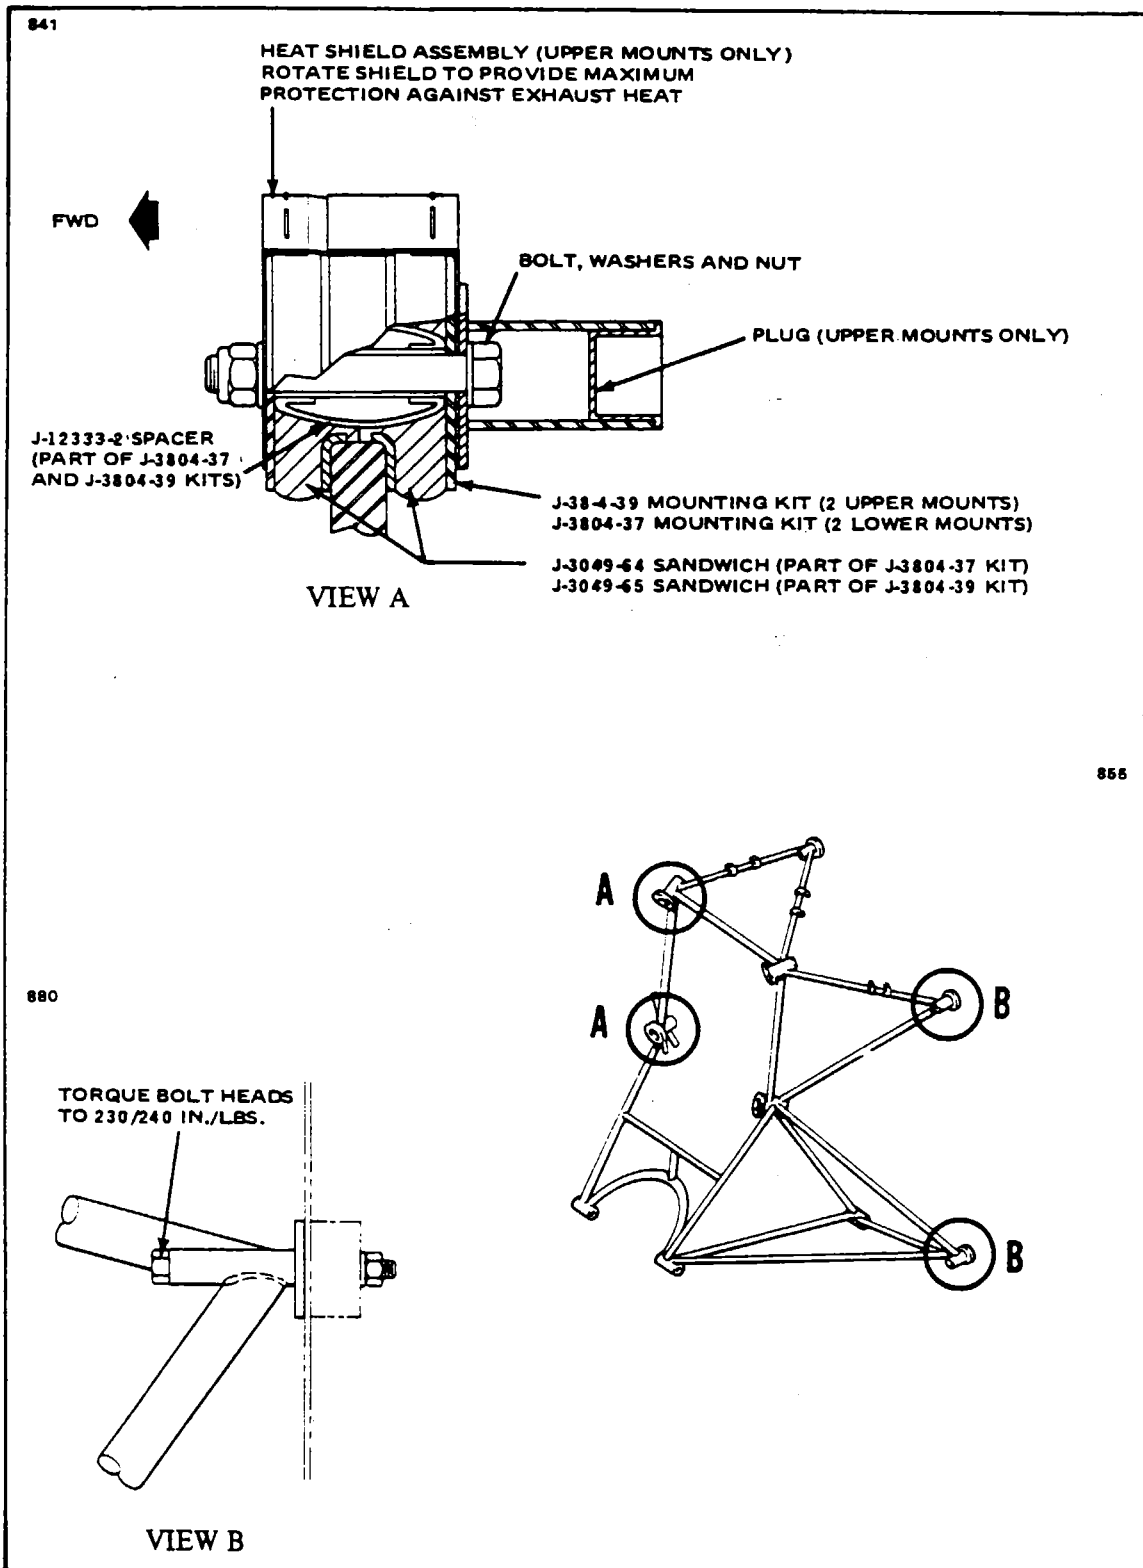

Figure 8A-4. Engine Mount Installation
5. Ascertain that the governor control arm (1) is adjusted to the proper angle on the control wheel (3) as shown in Figure 8A-3.